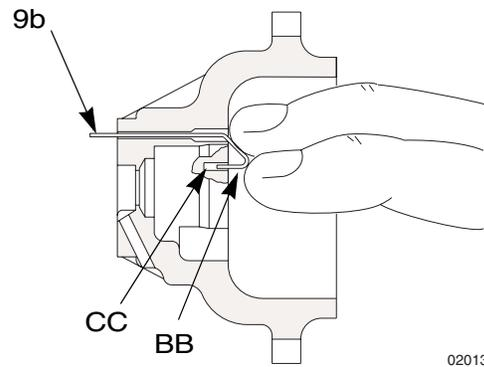

Fig. 10. Electrode Replacement
4. Push the new electrode through the air cap hole. Make sure the short end (BB) of the electrode engages the hole (CC) in the back of the air cap. Press the electrode in place firmly with your fingers. See FIG. 10.